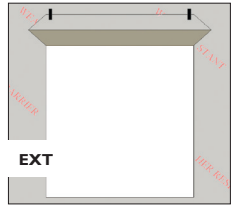

FIG. 4
- From the exterior, cut the top of the WRB as shown to form a flap. (Fig. 4)
- Temporarily tape this top flap up. (Fig. 4)